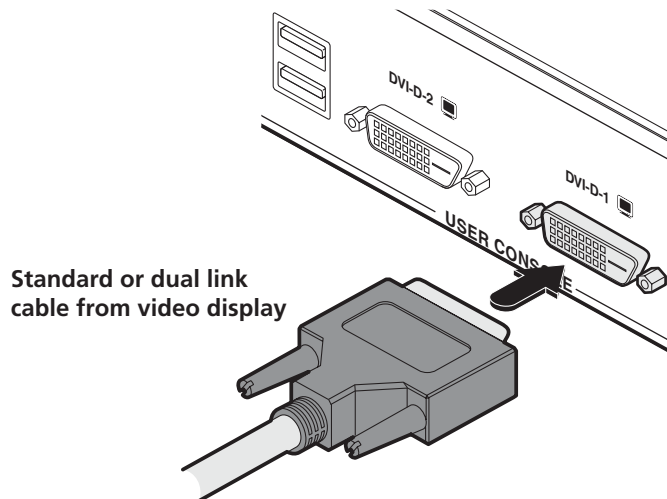

Figure 3-14. Connect the standard or dual link digital video cable to the DVI-D-1 socket.
- 1 Use either a standard or Dual Link DVI-D cable to connect the video display to the DVI-D-1 connector of the ServSwitch Agility Dual/Dual-Head remote unit. See Figure 3-14. Note: When using dual link on DVI-D-1, the DVI-D-2 port will be disabled. If DVI-D-2 is already being used, then it must be disconnected before dual link operation can occur on DVI-D-1. For very high resolution displays (not Dual-Head models), a dual link cable must also be used at the Local unit.